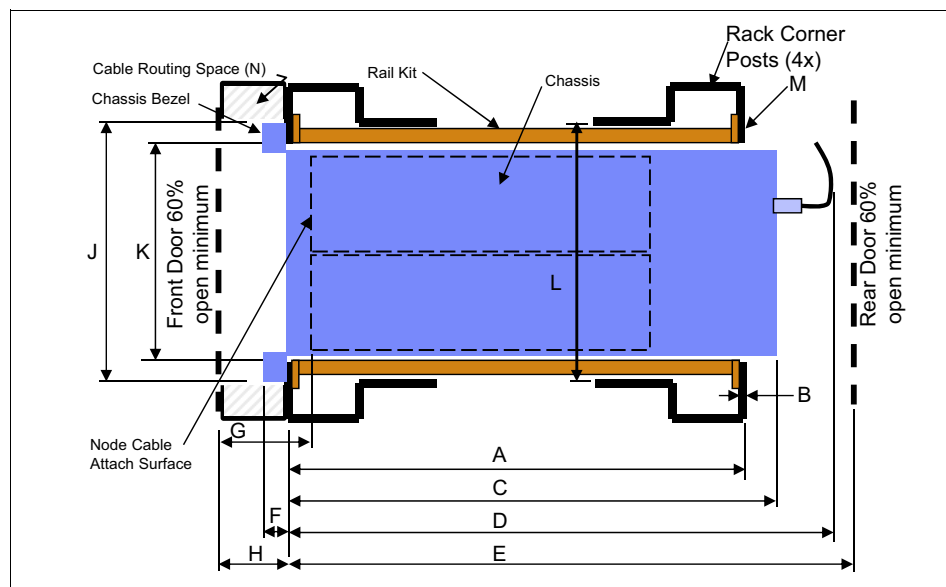

Figure 5-13 Dimensions for mounting the n1200 WCT Enclosure rails and brackets (top view)
The NeXtScale WCT System chassis can be installed in other racks. The NeXtScale n1200 WCT Enclosure can be installed in most industry-standard, four-post server racks. Figure 5-13 shows the dimensions of the NeXtScale n1200 WCT Enclosure and included rail kit.
The following features are highlighted in Figure 5-13:
- ▶ To allow adequate airflow into and out of the chassis, adhere to the recommended minimum distances to the front and rear doors, as shown in Figure 5-13 on page 81.